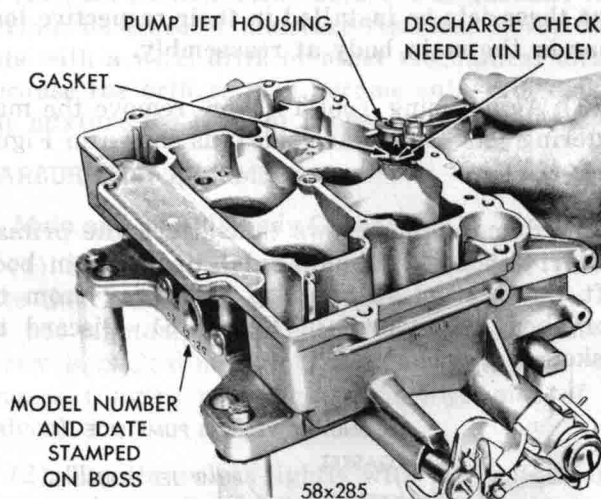

Fig. 59—Removing or Installing Accelerator Pump Jet Housing
(1) Remove the screws that attach the accelerator pump jet housing to the main body. Lift out the jet housing and gasket, as shown in Figure 59. Discard the gasket. Invert the main body and drop out the discharge check needle from the discharge passage.